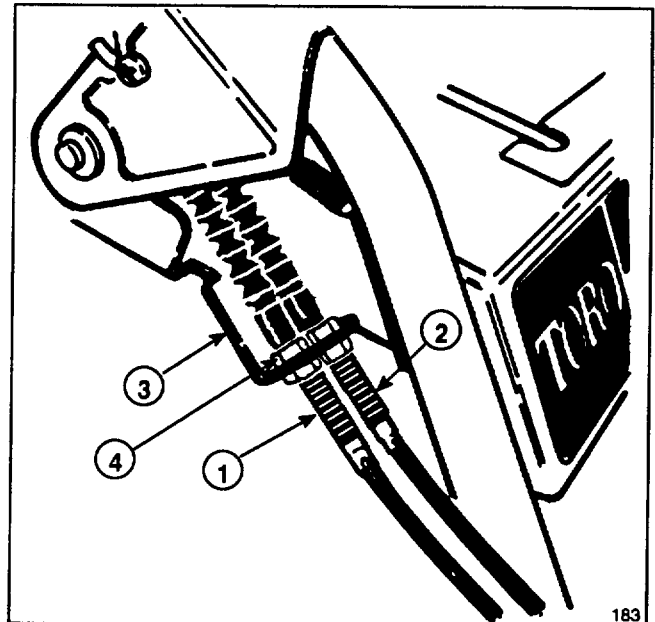

Figure 27
4. Loosen upper jam nut securing auger/impeller cable to mounting bracket (Fig. 27).
ADJUSTING TRACTION DRIVE BELT (Fig. 27)
4. Remove (2) flange head cap screws securing idler pulley assembly to engine frame. Remove idler pulley assembly.
8. On control cable which corresponds to belt being replaced, loosen jam nuts securing cable to bracket (Fig. 27). Cable must be free to slide in bracket when changing belt(s).